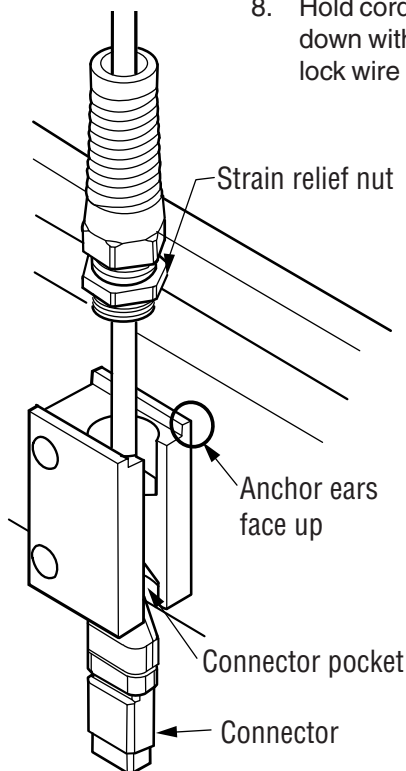

Figure 1-9 Cord and anchor
7. Loosen strain relief nut and slide upwards to allow wire insertion. Insert wire into anchor through slot and raise connector up into pocket. See Figure 1-9.